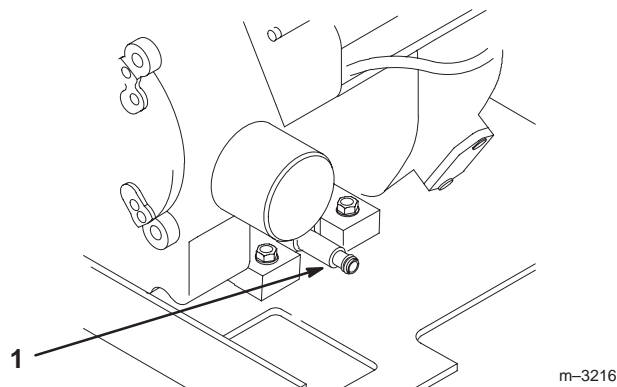

Figure 24
5. Open the drain valve by turning it counterclockwise, pulling out as you turn it (Fig. 24).